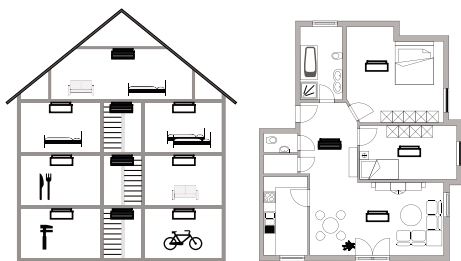

Fig. 1
6. Place of installation (see Fig. 1)